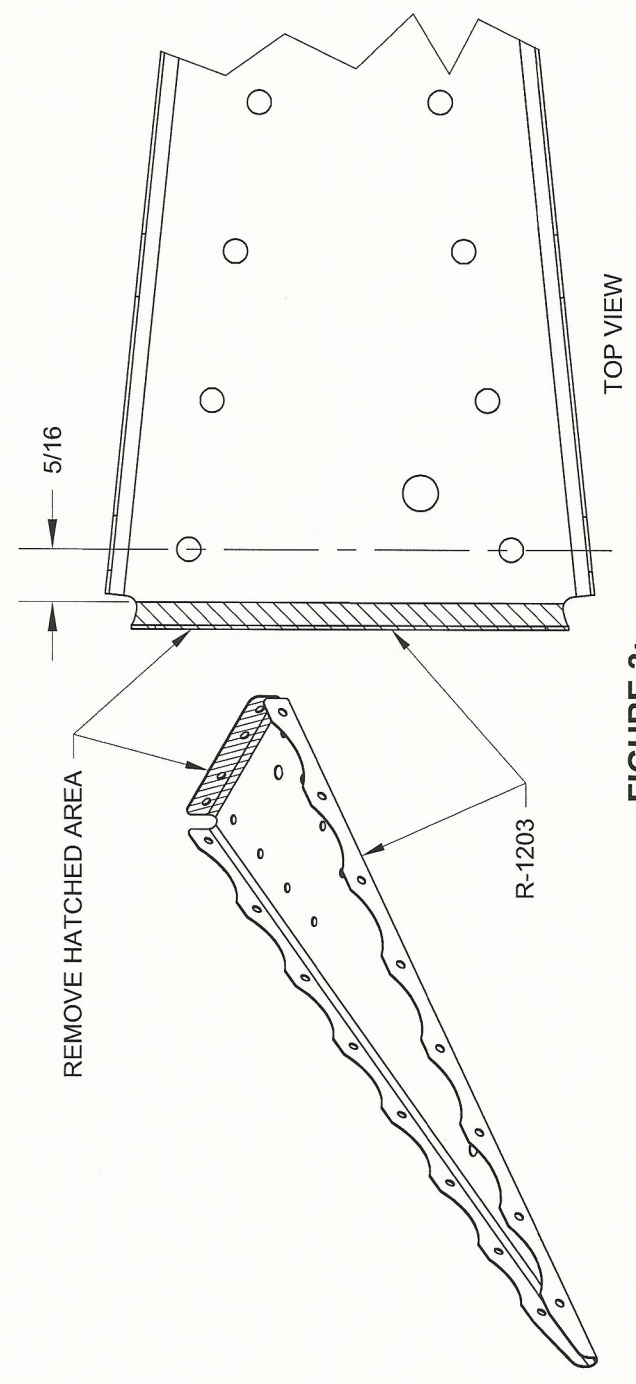

FIGURE 3:
Step 4: Remove the forward flange from one R-1203 Main Rib, per dimension in Figure 3. Deburr the trimmed edge. Hereafter refer to this trimmed rib as the R-1203A Trimmed Rib.